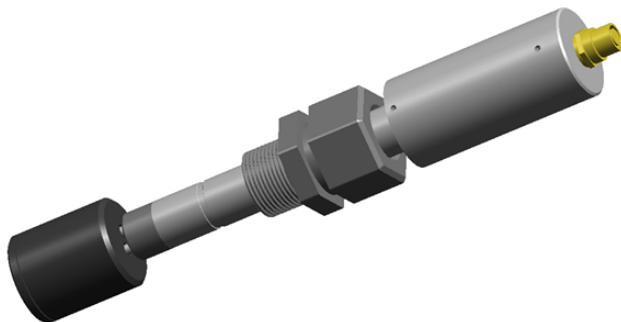

Figure 17.
5. Plug the sensor to the appropriate calibration check cap and wait for at least for 15 minutes to allow the sensor to carry out three complete measurements (Figure 17).